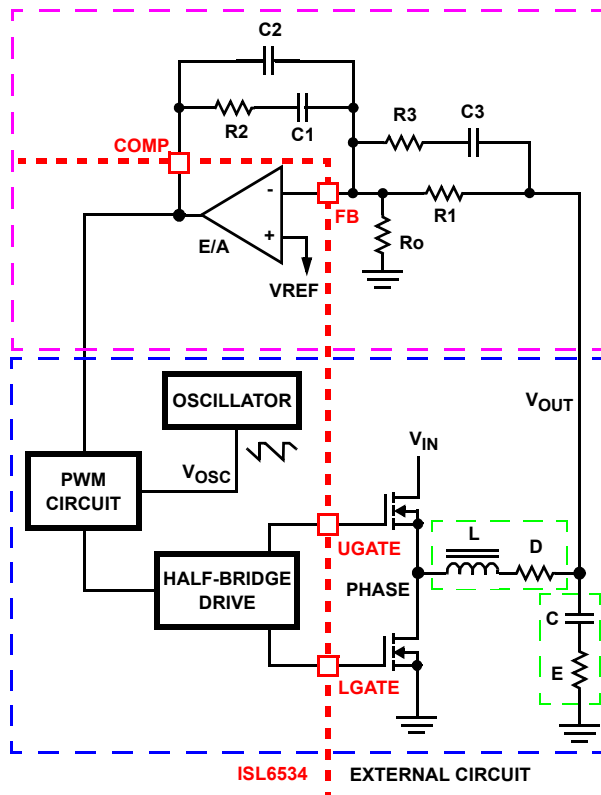

FIGURE 16. VOLTAGE-MODE BUCK CONVERTER COMPENSATION DESIGN
Figure 16 highlights the voltage-mode control loop for a synchronous-rectified buck converter, applicable to the ISL6534 circuit. The output voltage ( $V_{OUT}$ ) is regulated to the reference voltage,  $V_{REF}$ . The error amplifier output (COMP pin voltage) is compared with the oscillator (OSC) modified sawtooth wave to provide a pulse-width modulated wave with an amplitude of  $V_{IN}$  at the PHASE node. The PWM wave is smoothed by the output filter (L and C). The output filter capacitor bank's equivalent series resistance is represented by the series resistor E.
5. Select a value for R1 (1kΩ to 5kΩ, typically). Calculate value for R2 for desired converter bandwidth ( $F_0$ ). If setting the output voltage via an offset resistor connected to the FB pin,  $R_o$  in Figure 16, the design procedure can be followed as presented.